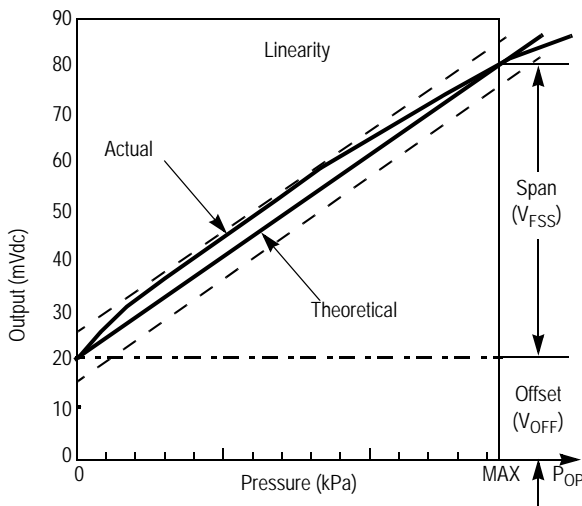

Figure 3. Linearity Specification Comparison
Linearity refers to how well a transducer's output follows the equation: $V_{\text{out}} = V_{\text{off}} + (\text{sensitivity} \times P)$ over the operating pressure range (see Figure 3). There are two basic methods for calculating nonlinearity: (1) end point straight line fit or (2) a least squares best line fit. While a least squares fit gives the "best case" linearity error (lower numerical value), the calculations required are burdensome.